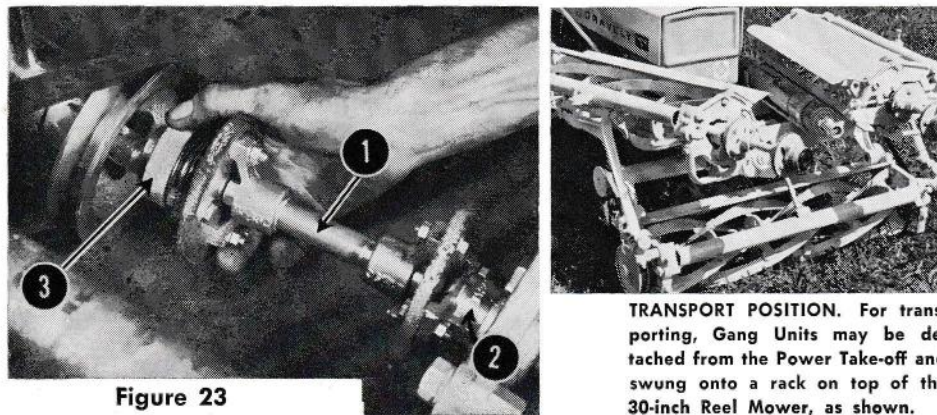

Figure 23
Finally, attach the Universal Assembly, 1 in Figure 23, as follows:
1. Place the Wing Spider, 2 in Figure 23, in position against the Reel Bearing. Tighten the set screws.
2. Grasp the Locking Ring, 3 in Figure 23 (pulling back against its spring), and place it against the Lower Take-off Shaft, lining up the Locking Ring balls with the holes in the Shaft.